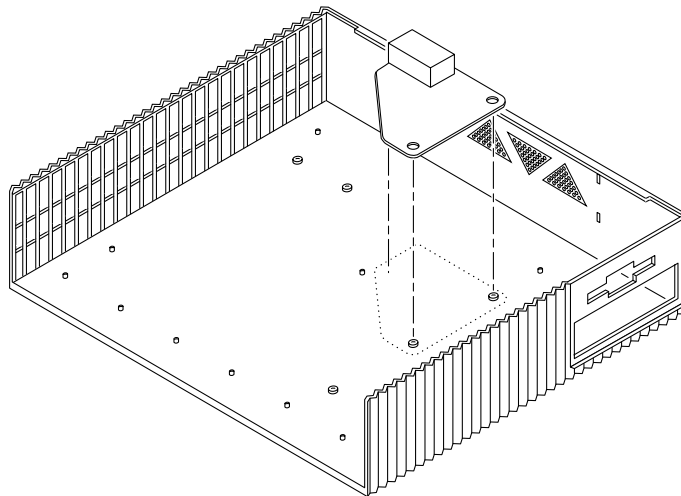

Figure 3-17 Positioning the Foamblock Spacer on the System Cover
- b. Align the registration pins on the inside of the cover with the holes in the foamblock spacer template as shown and press the template firmly in place (Figure 3-17).